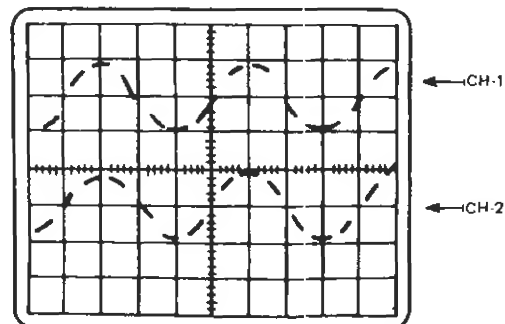

Figure 2-11. CHOP display at sweep speeds above 0.5 mS/div
2. Press either ALT or CHOP V MODE pushbutton (16). Press ALT for relatively high frequency displays (A TIME/DIV switch set at .2 mS or faster); press CHOP for relatively low-frequency displays (A TIME/DIV switch set at .5 mS or slower). If the CHOP pushbutton is pressed when fast sweep speeds are used, the displayed traces will appear broken (as in Figure 2-11) when signals are applied. If the ALT pushbutton is pressed when slow sweep speeds are used, the display will flicker excessively.